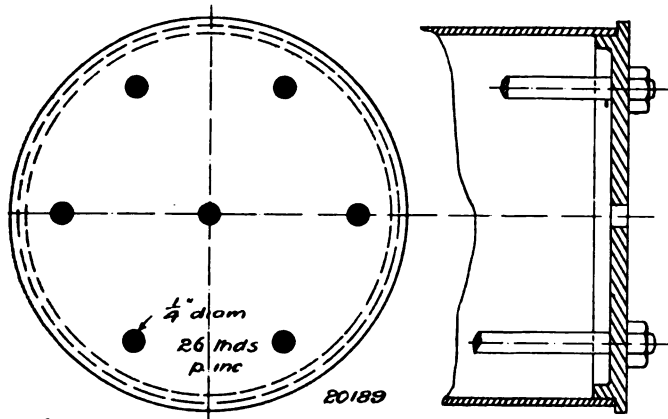

FIG. 1.—SECURING BOILER ENDS BY BOLTS ONLY.
[20,189] **Design for a Boiler.** W. F. M. (Highbury) writes: I am thinking of making a boiler from the design on page 549, Vol. XVIII. I cannot use rivets, on account of the noise. (1) Can I fix ends by stays as in sketch, Fig. 1, as I want them